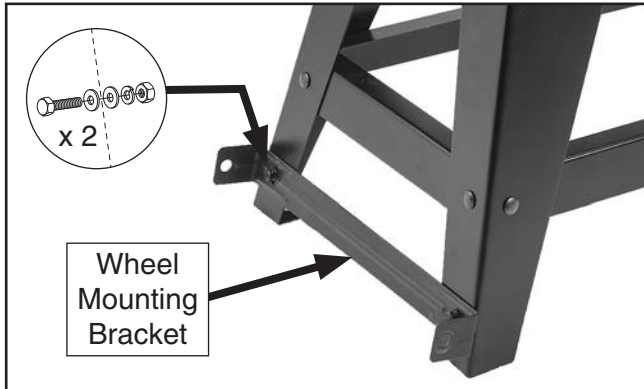

Figure 13. Wheel-mounting bracket attached to legs.
- Attach wheel mounting bracket to bottom of two legs with (2) M6-1 x 12 hex bolts, (4) 6mm flat washers, (2) 6mm lock washers, and (2) M6-1 hex nuts, as shown in **Figure 13**.